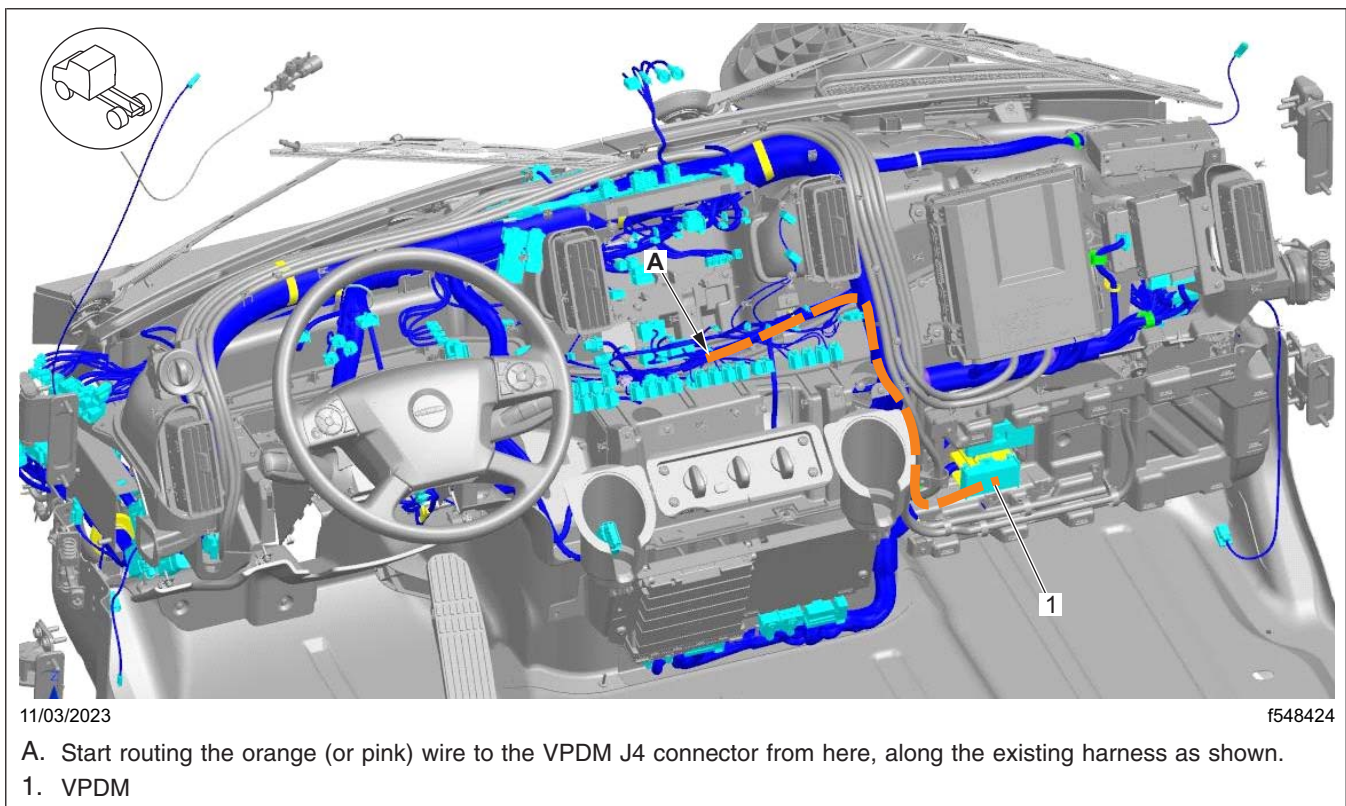
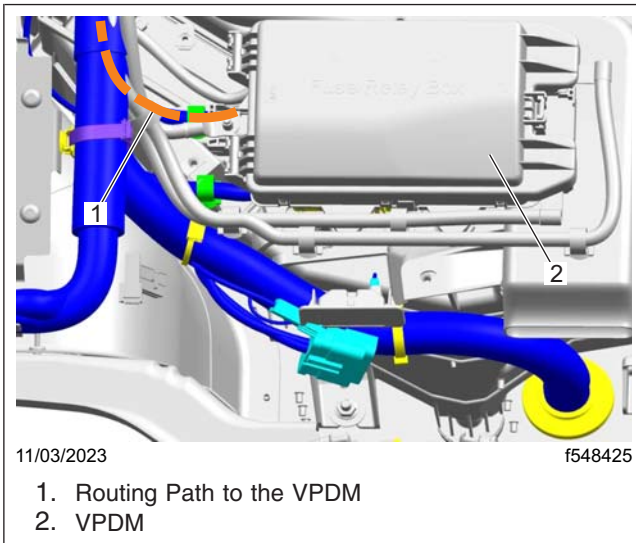
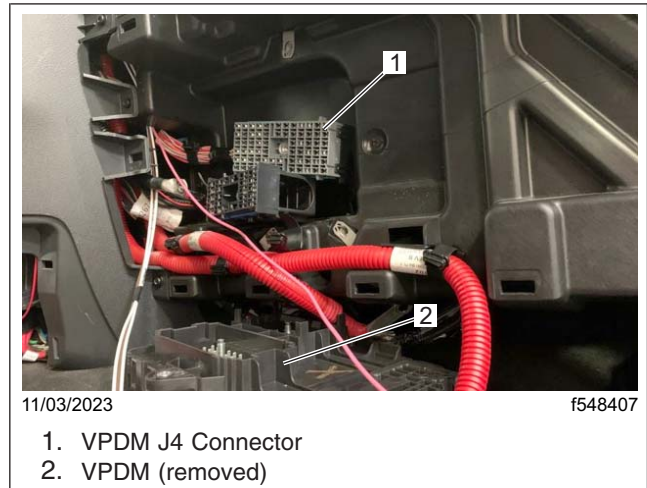

Fig. 54, Routing Path of the Orange (or Pink) Wire from Behind the Center Dash Switch Panel to the VPDM J4 Connector
Fig. 55, Routing Path of the Orange (or Pink) Wire in the VPDM Area
Fig. 56, Location of the VPDM J4 Connector, Where the Orange (or Pink) Wire Terminates
- 25.1 Route the orange (or pink) wire from behind the center dash switch panel to the VPDM connector J4 in the path shown in **Fig. 54**, **Fig. 55**, and **Fig. 56**.